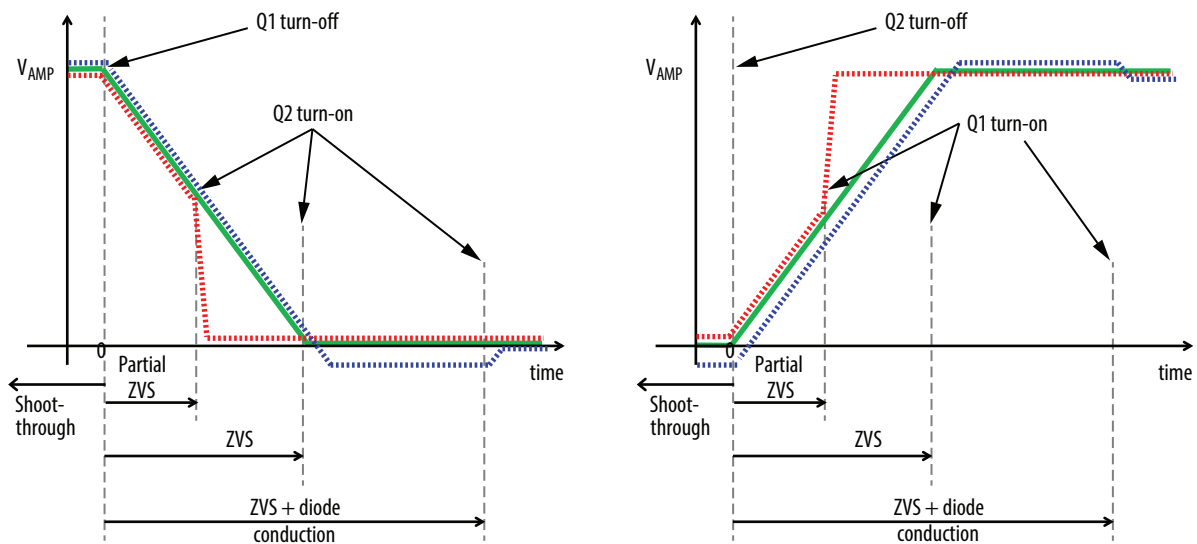

Figure 7: ZVS timing diagrams.
Setting the correct time to establish ZVS transitions is critical to achieving high efficiency with the EPC9512 amplifier. This can be done by selecting the values for R71, R72, R77, and R78 or P71, P72, P77, and P78 respectively. This procedure is best performed using a potentiometer installed at the appropriate locations that is used to determine the fixed resistor values. The procedure is the same for both single-ended and differential mode of operation. The timing **MUST** initially be set **WITHOUT** the source coil connected to the amplifier. The timing diagrams are given in figure 7 and should be referenced when following this procedure. Only perform these steps if changes have been made to the board as it is shipped preset. The steps are:
6. While observing the oscilloscope adjust the applicable potentiometers to achieve the green waveform of figure 7.